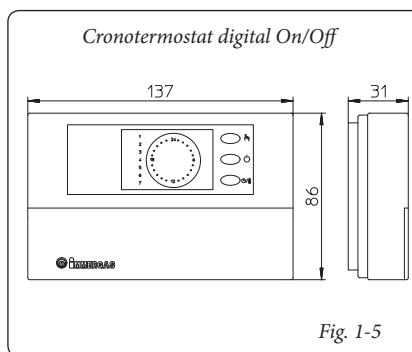

Fig. 1-5
- Cronotermostat digital On/Off (Fig. 1-5). Cronotermostatul permite: